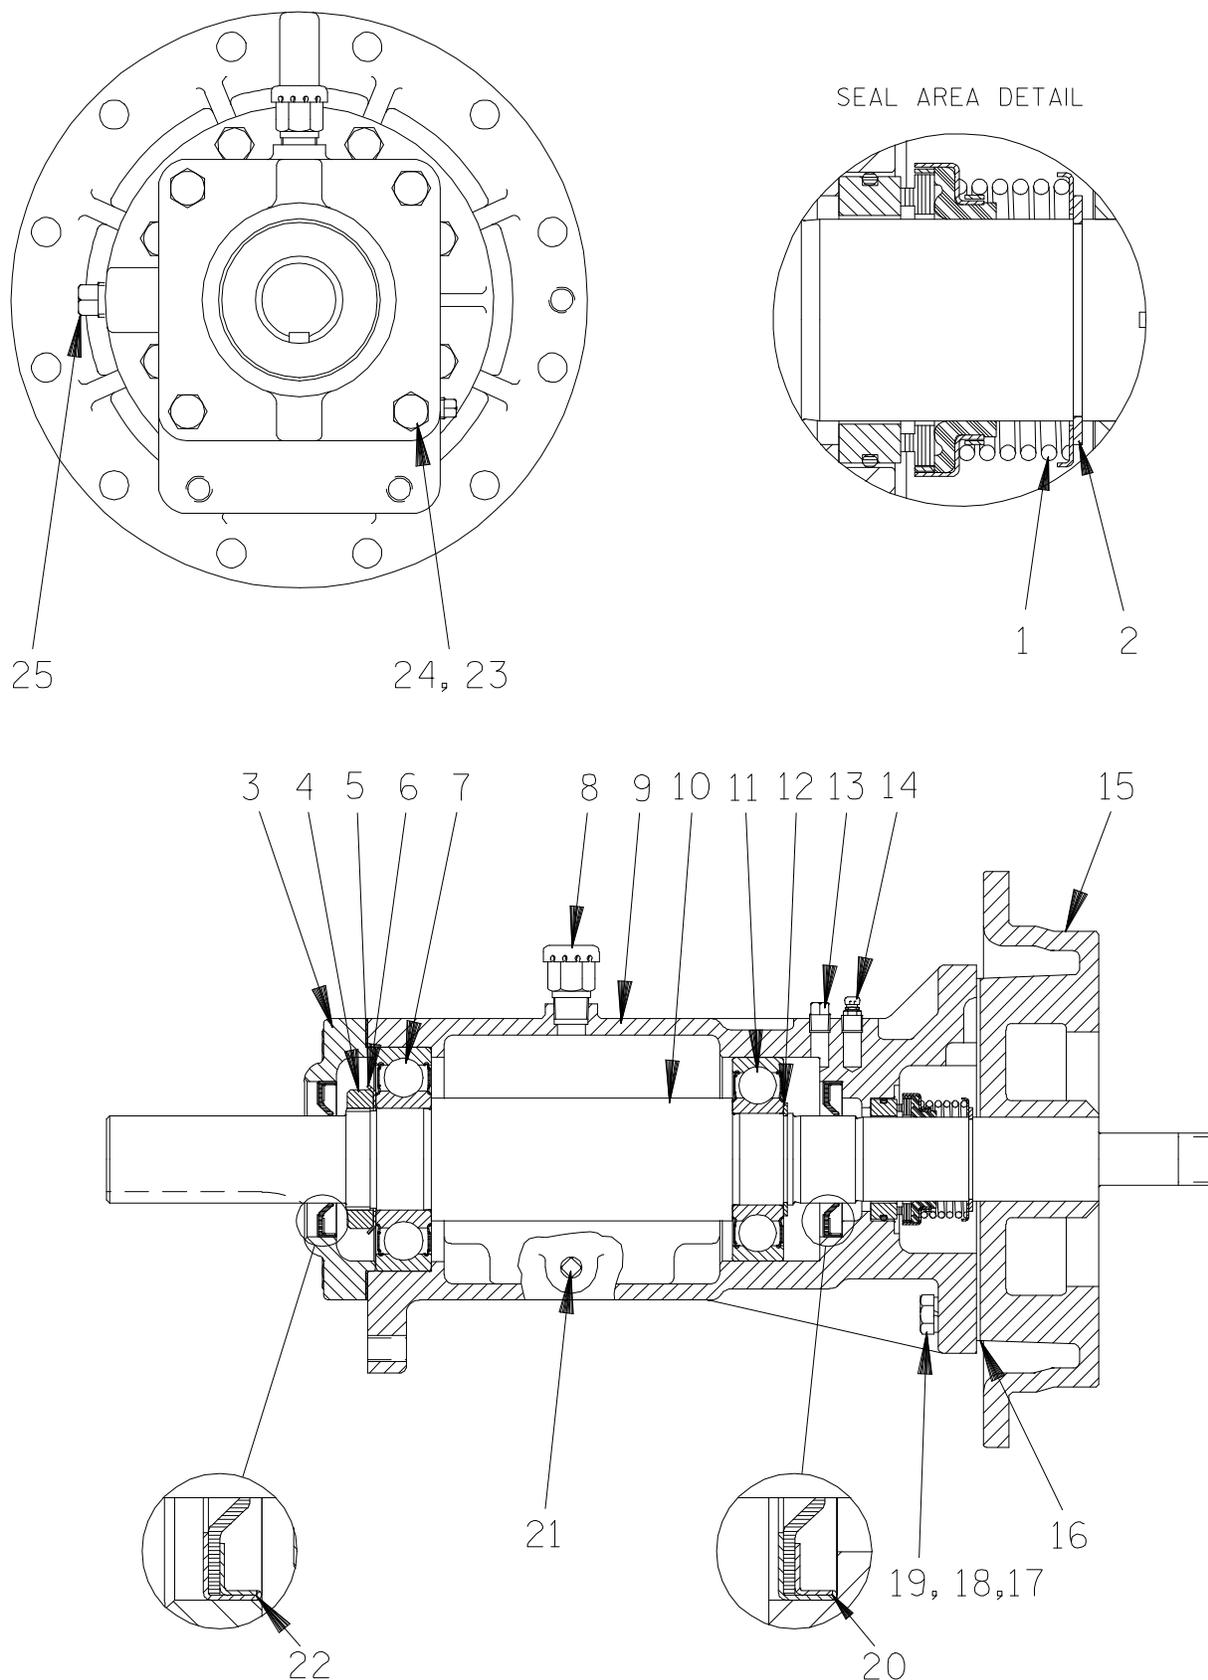

Figure 2. Bearing Housing Assembly
Use a suitable hoist and sling to support the bearing housing (7). Remove the nuts and install two jacking screws (not supplied) in the tapped holes in the body cover (15, Figure 2). Tighten the screws evenly to prevent binding, and pull the bearing housing, body cover and assembled parts straight out of the pump casing.
Remove the brass rod. Install two 1/2–13 UNC capscrews (not supplied) in the tapped holes in the impeller, and use a suitable puller to remove the impeller from the shaft (10, Figure 2). Retain the impeller key (10).
Body Cover Removal**(Figure 2)**
Seal Removal**(Figures 2 and 3)**
Shaft and Bearing Removal and Disassembly**(Figure 2)**